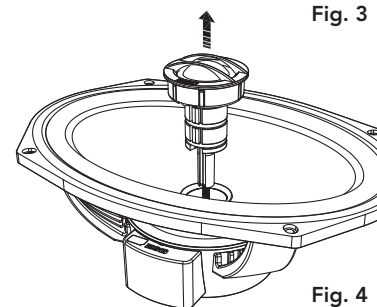

Fig. 4
- 4- Pull up the tweeter wires in vertical position and remove the entire tweeter and tweeter holder from the center of woofer (Fig. 4).